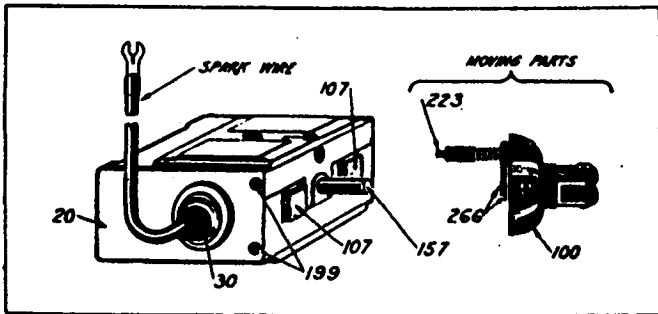

Fig. 1—Magneto, Moving Parts Removed
Put advance lever (403) in the starting position (See Figure II for Type No. 1 drive, Figure IV for Type No. 2 drive, and Figure VII for Type No. 3 drive) Be sure the spark wire (Figure 1), is connected to the spark plug. If engine is provided with a priming cup, prime engine by pouring a small amount of gasoline into the cup and letting it flow into the cylinder. If there is no priming cup, instructions accompanying engine will show how to choke air intake for same purpose. Turn flywheel in the